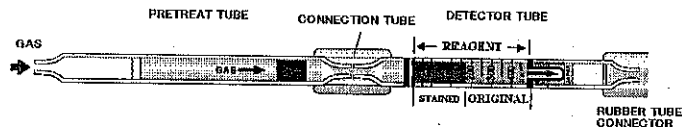

Fig.1
- ② Connect each end of the detector tube and pretreat tube with connecting tube as shown in Fig.1.
- ③ Connect the detector tube into the rubber tube connector of the Model S-21 or 23E air sampler as shown in Fig. 1 (Arrow marks shall point to the sampler.), and fix it into the detector tube holder.
- ④ Turn ON power of the air sampler.
- ⑤ In accordance with instruction manual of each air sampler, preset the TIMER at 30 minutes and adjust the flow rate at 100mL/min.
- ⑥ After completion of sampling (30 minutes), remove the detector tube from the tube holder and read the scale at the maximum point of a stained layer.
- ⑦ When the concentrations are over the scale range (400 $\mu\text{g}/\text{m}^3$), 15 minutes sampling time can be used to determine these higher concentrations. In this case, the following equation is available to obtain a true concentration. True concentration = Temperature corrected concentration × 2.3
- ① Temperature: The scale is calibrated based on the temperature of 20 °C (68°F). Readings obtained in other circumstances should be corrected with the following table.